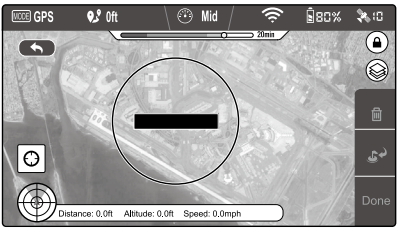

Figure 104
- A circle on the map, as shown in Figure 104, indicates a restricted, No Waypoint area. Waypoints cannot be placed in this area. For more information, refer to “6.2 Flight Restriction of Restricted Areas (P30)”.